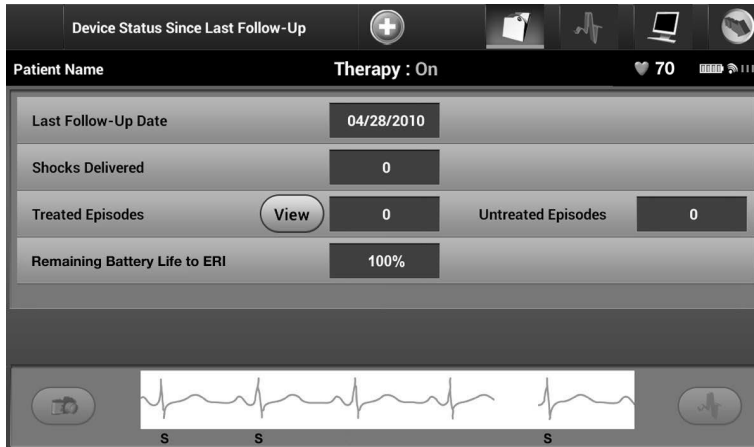

Figure 36: *Device Status screen*
4. The Device Status screen will appear showing an overview of all pulse generator activity since the last communication session (Figure 36).